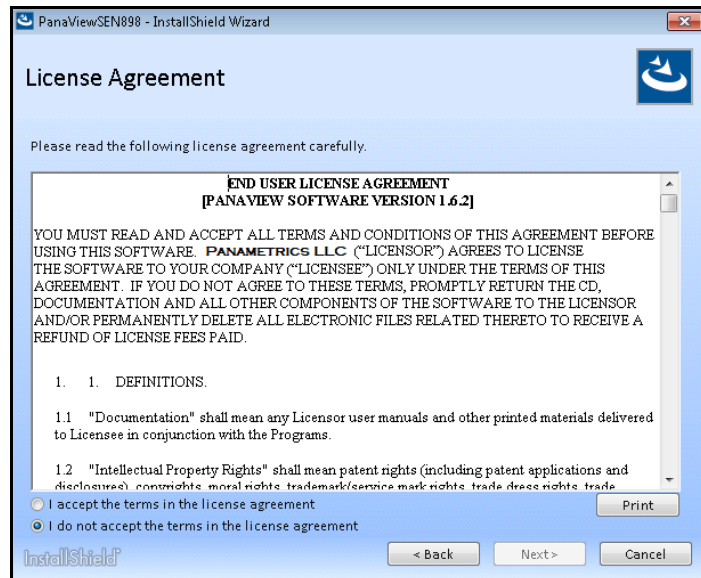

Figure 3: Licence Agreement Screen
3. Next, the *End User Licence Agreement* shown in *Figure 3* below opens. Click the radio button for “I accept the terms in the licence agreement” and Click [Next] button to continue.